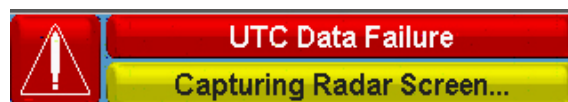
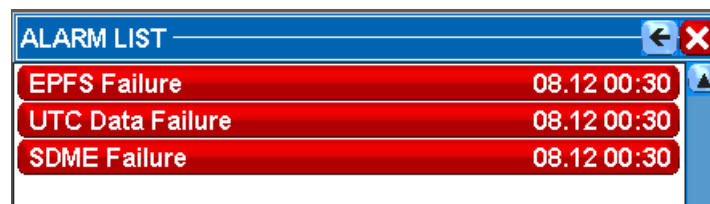
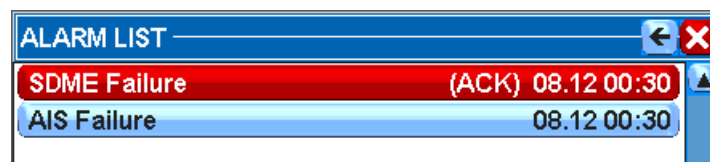

Figure 7.1 Alarms/System Status
Figure 7.2.2
Figure 7.2.3
In the first column, the upper button is the System Status, which opens the menu in which it is possible to check the status of the most important parts of the system. In Figure 7.1 it is labelled with icon ! and drawn in red background, to warn about a failure present in the menu. The button below is the Alarm List, which displays the list of the last 100 Alarms, Warnings and System Failures.
The System Status button icon is drawn as a big question mark inscribed in a red triangle (Figure 7.1) when a failure is present, or just as SYS STS in normal conditions. Press the button to display the System Status Window.
The Alarm List (will be displayed by pressing the Alarm List button) (Figure 7.1).
The alarms in the “ALARM LIST” window begin to flash, showing the time at which the alarm occurred, see figure 7.2.2. Once an alarm situation has been signalled e.g. “UTC data Failure”, it is possible to acknowledge it. In this case, the word (ACK) will appear (figure 7.2.3), which marks a situation that you are indeed aware of and as a result, the system removes the alarm condition as presented in figure 7.1.
In the list, it is possible to cancel one, or all the items. Select the item and press Cancel to remove only that entry from the list. It is only possible to acknowledge the alarms by means of the Alarms button (Figure 7.1, second column, red button).
The following Table lists the possible Alarm Messages. When one of them occurs, the failure LED of the keyboard turns on (Figure 2.2.1, pos. 4), the alarms button is displayed in its area, labelled with the received alarm (Figure 7.1, 2nd column, red button) and if the audio alarm is activated, a sound will start as well. It is possible to acknowledge the alarm by pressing the alarm button, which will remove the alarm from the system until it returns, and the alarm button is labelled with a new alarm when present, otherwise it stays hidden.
The following table lists the possible messages displayed when a wrong operation is carried out. This wrong operation does not influence the System. When a Wrong Operation message is generated, the wrong orders button is displayed in its area, labelled with a message correspondent to the wrong action performed (Figure 7.1, 2nd column, yellow button).